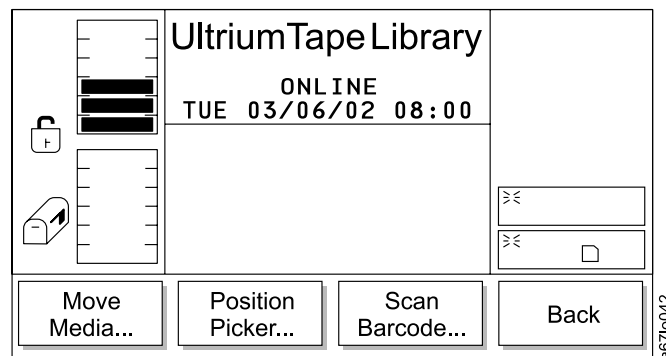

Figure 108. Move Submenu
- If **Move** is selected, the Move Submenu displays (see Figure 108).
- If **Cancel** is selected, the Move Submenu displays (see Figure 108 on page 105).